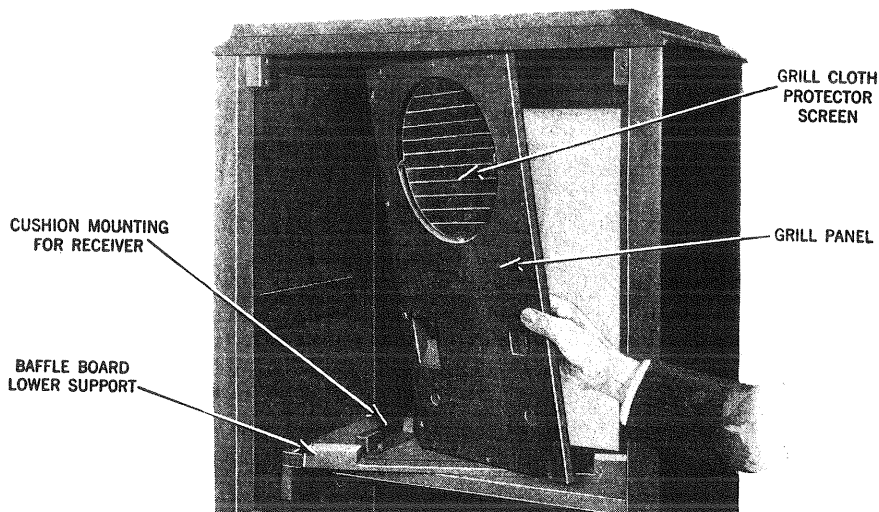

Figure 27—Removing grill panel from cabinet
- (f) Remove lower baffle support (See Figure 27) by removing wood screws holding unit.